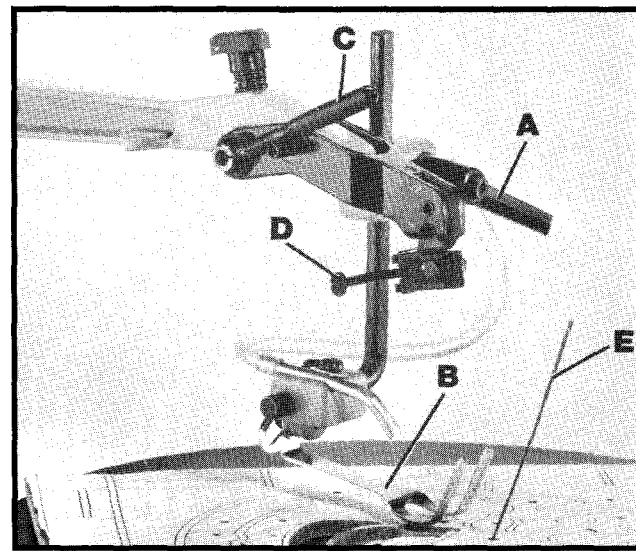

Fig. 38
Loosen lock handle (A) Fig. 38, and raise the spring holddown (B). Release blade tension by moving tension lever (C) forward and loosen upper blade holder by moving lever (D) to the rear as shown. This will release the blade (E). Insert the blade (E) into the next hole in the pattern, as shown.